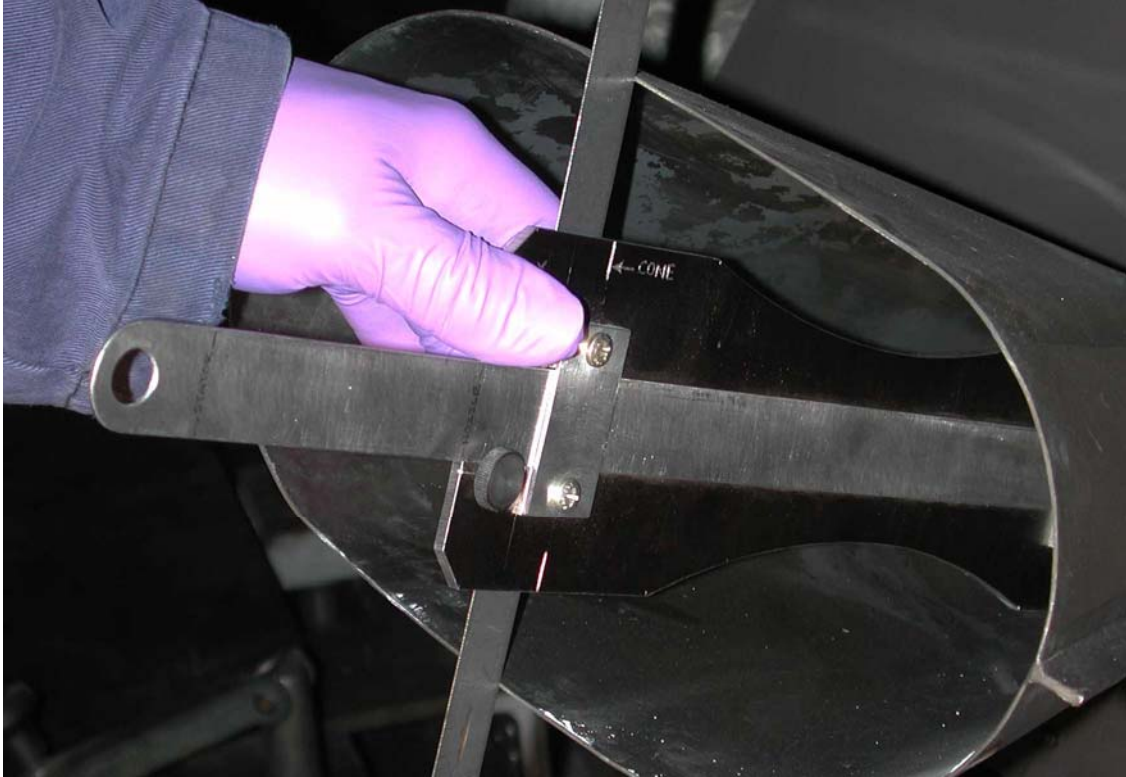

Figure 1: Setting Burner Cone Protrusion
- Set burner cone protrusion. Check with straightedge across burner cone face both horizontally and vertically. See Figure 1.